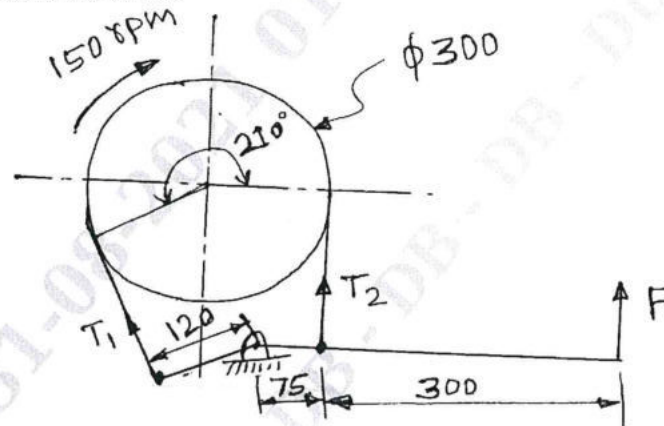

Fig.Q.8(b)
- b. A differential band brake shown in Fig.Q.8(b), the brake is to sustain a torque of 425N-m. The coefficient of friction between the band and the drum is 0.153. Determine: